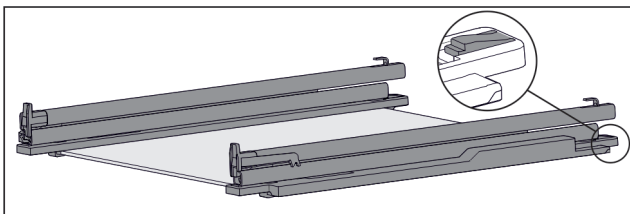

Fig. 96 Glass shelf with rails and retaining parts
- ▶ Press down retaining part at the rear (see Fig. 96) and simultaneously push rail back.